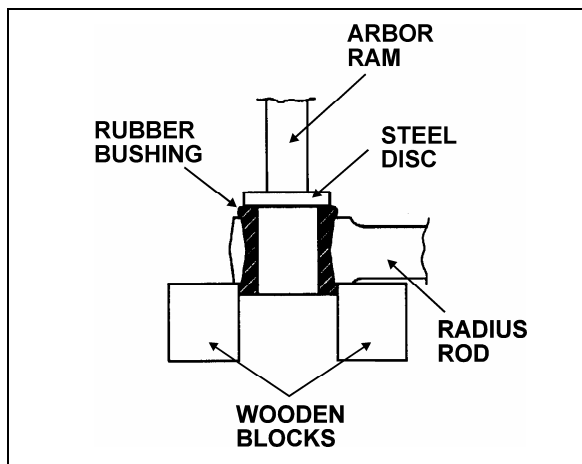

FIGURE 35: RADIUS ROD BUSHING REMOVAL 16011
1. Safely support the radius rod as shown in figure 35.
2. Place a flat steel disc, slightly smaller than the outside diameter of the bushing (Fig. 35).